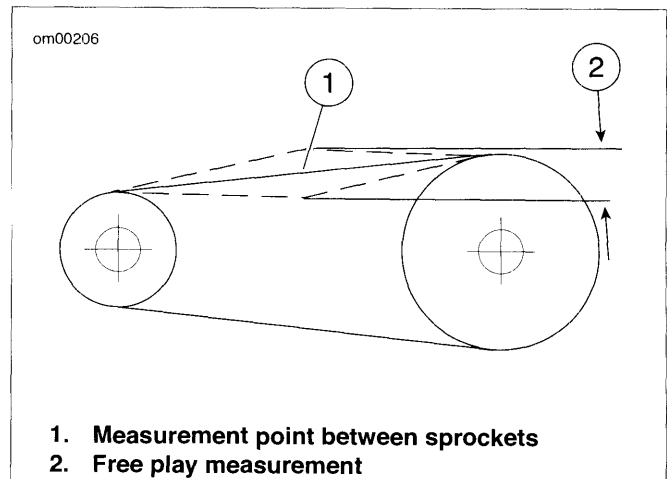

Figure 1-44. Primary Chain Vertical Free Play: Sportster Models
- See Figure 1-44. Refer to Table 1-10. A properly adjusted primary chain should have the specified vertical free play in its upper strand. Be sure the measurement is taken midway between engine and clutch sprockets with sprockets rotated to the tightest chain position.